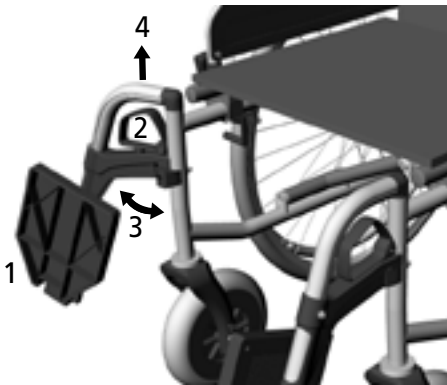

fig. 9
2. Pull the locking grip upwards (2, fig. 9)
3. Swivel the leg rest to the side (3, fig. 9).
4. If you wish to remove the leg rest: Take hold of the leg rest on the horizontal part of the tube and pull the leg rest upwards out of the guide (4, fig. 9)